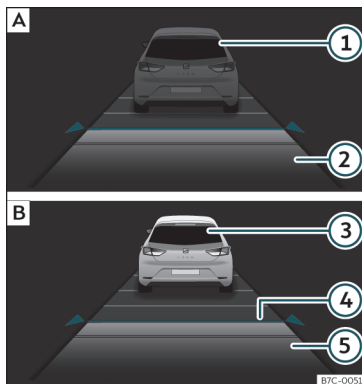
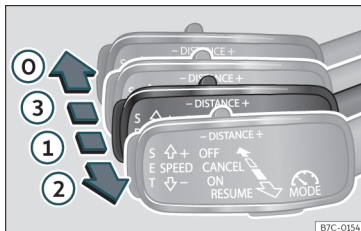
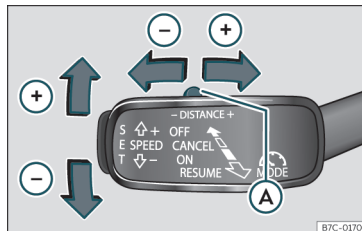

Fig. 210 On the instrument panel display: (A) ACC inactive (Standby). (B) ACC active.
Fig. 212 On the left of the steering column: third lever for operating the Adaptive Cruise Control.
Fig. 213 On the left of the steering column: third lever for operating the Adaptive Cruise Control.
Indications on the display >>> **Fig. 210:**
When the Adaptive Cruise Control (ACC) is connected, the green control lamp (🟢) will light up on the instrument panel, and the programmed speed and ACC status will be displayed >>> **Fig. 210**.
Once you are driving, if you wish to set the current speed as the vehicle's cruise speed and activate the ACC, press the **SET** >>> **Fig. 213** button. If you wish to increase or reduce speed by intervals of 1 km/h (0.6 mph), move the lever to position ② >>> **Fig. 212** or press the **SET** button, respectively.
The set speed can be changed when the vehicle is stopped or during driving, as you like. Any modification to the programmed speed will be shown on the bottom left part of the instrument panel display >>> **Fig. 210**.
To increase/reduce the distance level, press the rocker switch towards the left/right >>> **Fig. 213 A**.
- To activate the ACC, with the third lever in position ① press the **SET** button or move the third lever of the ACC to position ② >>> **Fig. 212**. At this point, the image of the ACC on the instrument panel display will switch to Active mode >>> **Fig. 210**.
To disconnect the ACC move the lever to the ③ position >>> **Fig. 212** (engaged). An **ACC deactivated** message appears and the function is totally deactivated.
If you do not wish to disconnect the ACC, just to switch it temporarily to inactive mode (Standby), move the third lever to position ③ >>> **Fig. 212** or press the brake pedal.